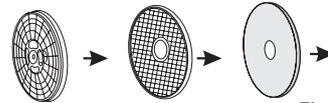

Figure 3
4. Align bracket as shown in Fig. 3 and fasten screws tightly.
After cleaning, assemble in the sequence of "exhaust filter - filter - exhaust vent shroud", align the recesses in the center of filter with the projection in the center of drum and make sure that it is firmly inserted (as shown in figure 3).